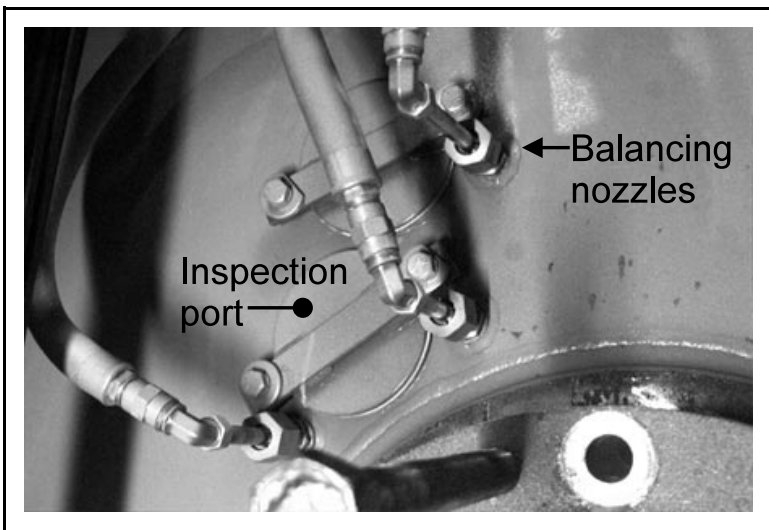

FIGURE 13 (MSSMA430AE)
5. Loosen each balancing nozzle, then reach through the inspection port (FIGURE 13), and rotate each nozzle down, out of its channel.